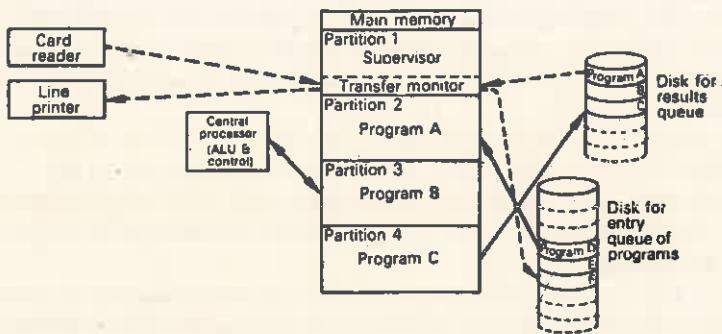

Fig. 36.34. Principle of a multi-programming system.
- The technique for having the computer handle several programs concurrently is known as *multi-programming* or *parallel processing*. The programs are placed in different sections of memory (Fig. 36.34). The computer can switch the CPU from one program to another. This task is incorporated into the overall operating system, usually called the *supervisor*, *monitor* (IBM) or the *executive* (ICL).
- In Fig. 36.34 the main memory is divided into *partitions*. The first partition is reserved for the supervisor, which has to remain in main memory all the time.